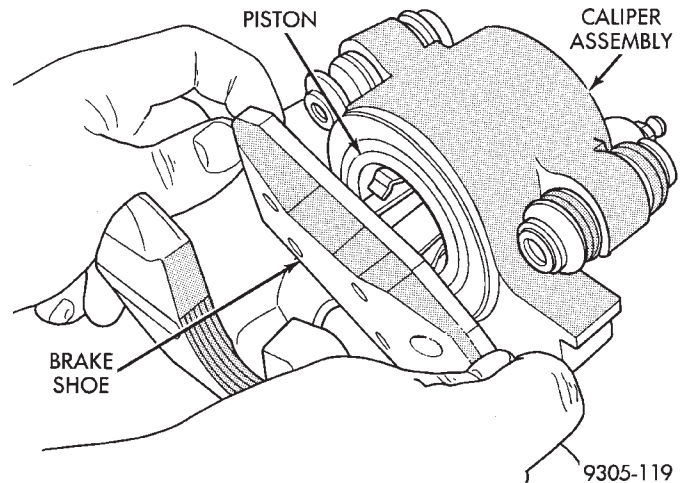

Fig. 54 Installing Inboard Brake Shoe Assembly
(5) Install the new inboard brake shoe assembly into the caliper piston by firmly pressing into piston bore (Fig. 54). Be sure inboard brake shoe assembly is positioned squarely against face of caliper piston.